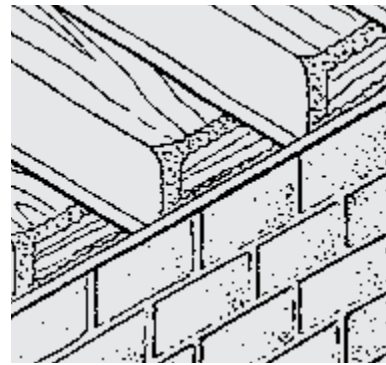

Figure 9: Sealing sill plate/rim joists (maximum 2" [50 mm] thickness)
Froth-Pak™ Foam Insulation is UL Classified as a foam plastic – UL File R7813, tested at 2" (50 mm) thickness full coverage. With a flame spread index of 25 and a smoke developed index of 350, **Froth-Pak™ Foam Insulation** up to 2" thick can be left exposed without a thermal barrier on sill plates and rim joist headers (Figures 9 and 10).
- Rim joists/sill plate (Figure 9)